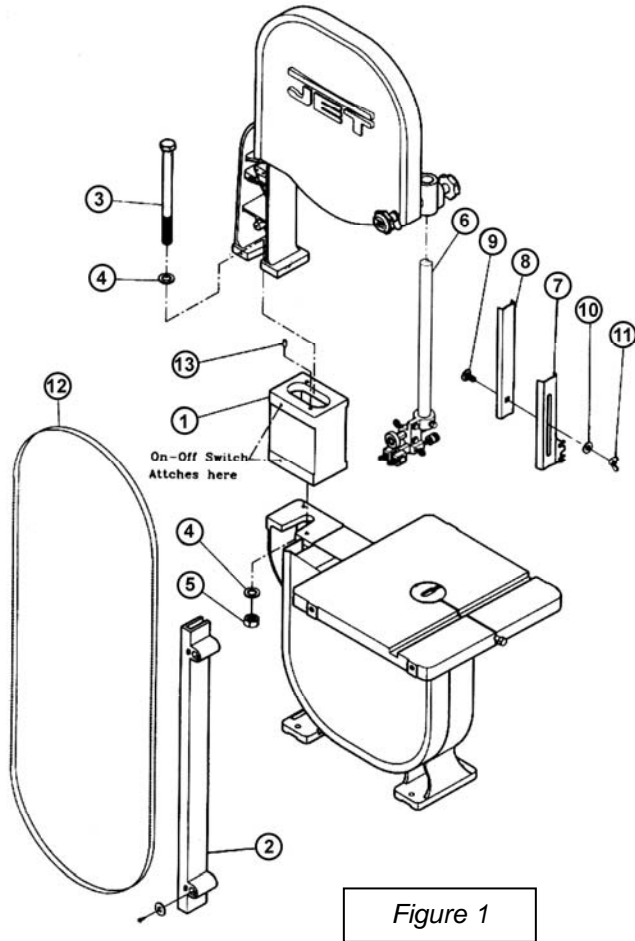

Figure 1
8. Fasten the new blade guard assembly (Item #2, Figure 1) to the saw arm and saw body.
17. Fasten the new blade guard assembly (Item Nos. 7-11, Fig. 1) to the upper blade guide bracket. **Note:** Always adjust the blade guard assembly to cover the blade completely whenever the guide post height is changed.